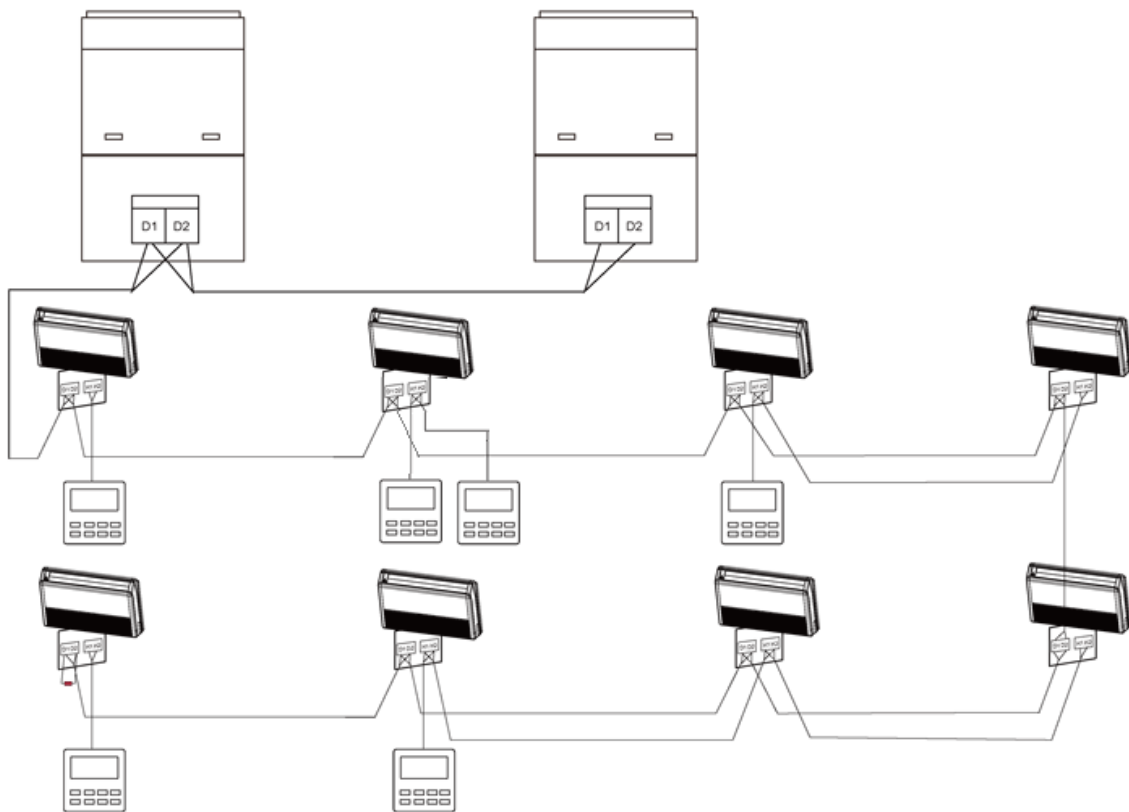

Fig.5.5.1
- (1) Communication wire of indoor unit and outdoor unit (or indoor unit) is connected to D1, D2.
- (2) Wired controller is connected to H1, H2.
- (3) One indoor unit can connect two wired controllers that must be set as master one and slave one.
- (4) One wired controller can control 16 indoor units in maximum at the same time. (As shown in Fig. 5.5.1)